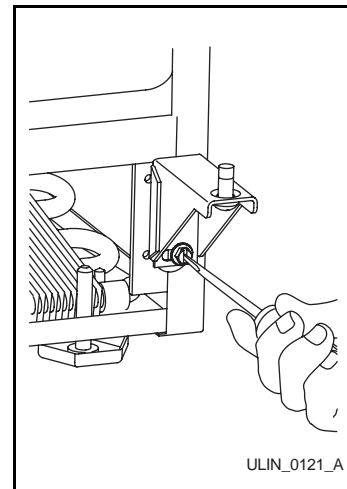

Figure 23
4. Remove bottom hinge from cabinet (two screws) (**Figure 23**).